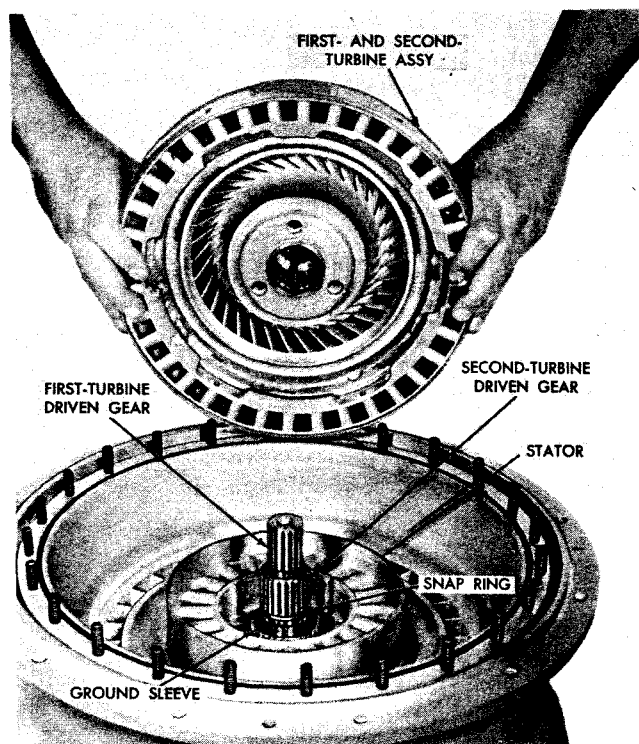

Fig. VII-7. Installing first- and second-turbine assembly
(3) Install the stator on ground sleeve splines (fig. VII-7).
(4) Install the snap ring on the ground sleeve (fig. VII-7).
(5) Install the first- and second-turbine assembly, engaging the splines on the first-turbine driven gear and second-turbine driven gear.